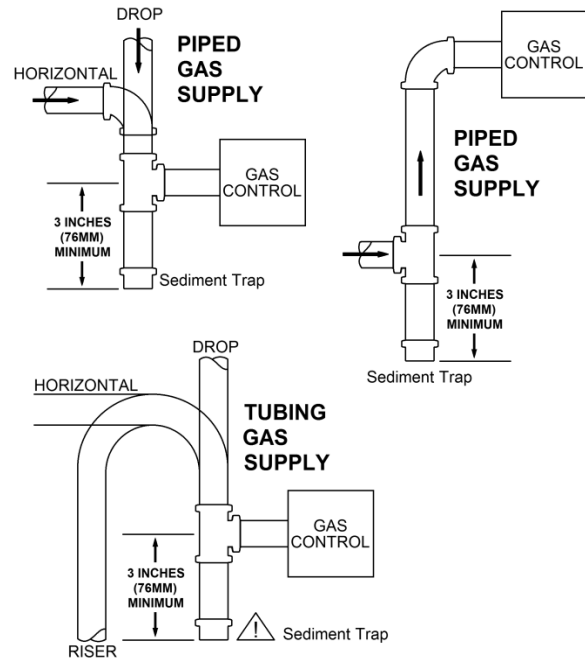

Figure 17 – Sample Gas Supply Sediment Traps
🔥 NFPA Code and Hearthstone require the use of a dedicated sediment trap just upstream of the unit. Damage to the valve, or other components due to the lack of a sediment trap are not covered by warranty (see figure 17).
- Install the sediment trap (where required) in the gas supply line to prevent contamination of the gas valve (see figure 17).